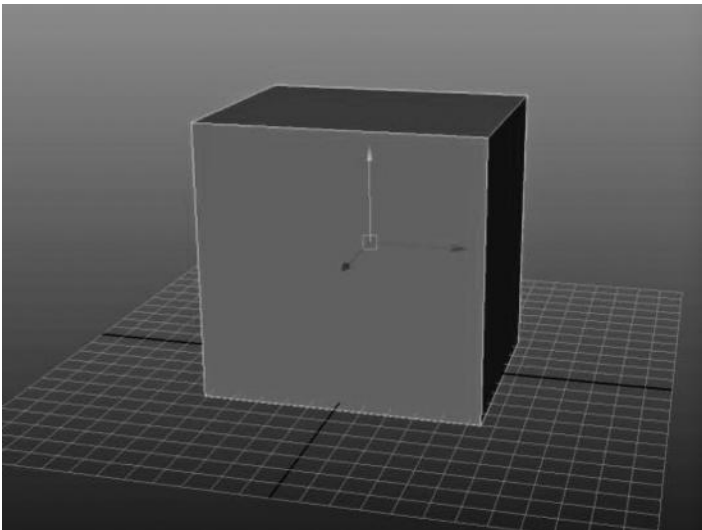
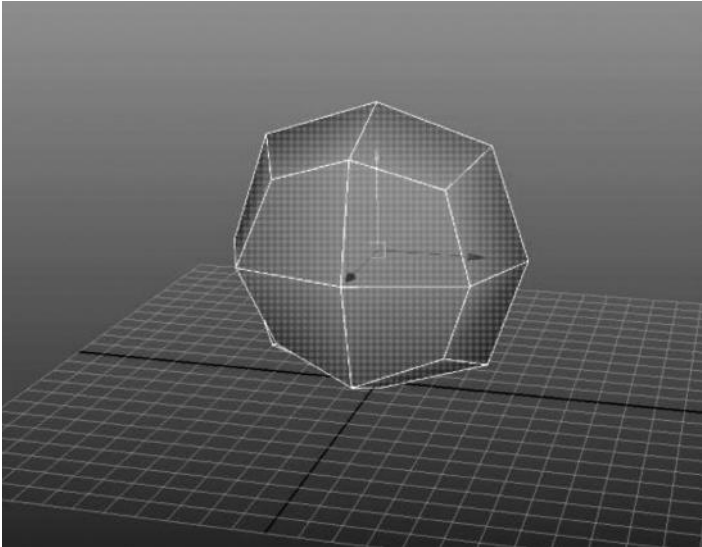
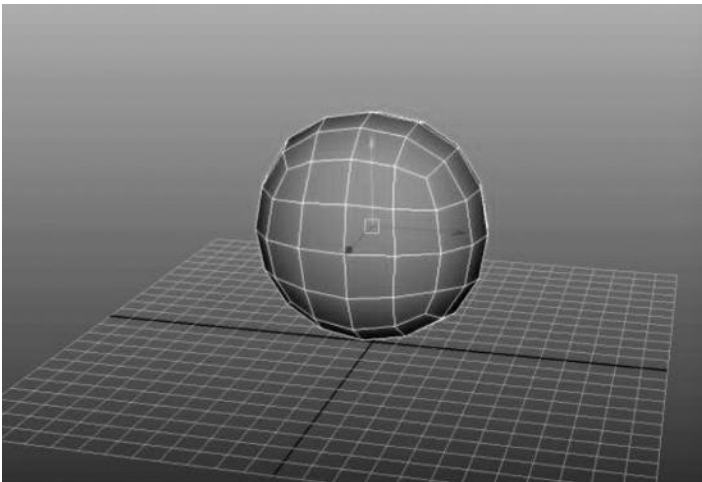

FIGURE 2.52 Polygon cube before running a smooth operator.
FIGURE 2.53 Smoothing the cube, with 1 iteration.
FIGURE 2.54 Smoothing the cube, with 2 iterations.
**Smoothing** faces or entire models is a very common polygon-editing tool. Smoothing works by increasing the number of faces in a polygon model and rounding those resulting faces out. In Figure 2.52 you can see a cube selected, and in Figure 2.53 you can see that same cube after running smooth on it. Figure 2.54 has that same cube smoothed again. Notice how the square edges get rounder and rounder as the smoothness increases?